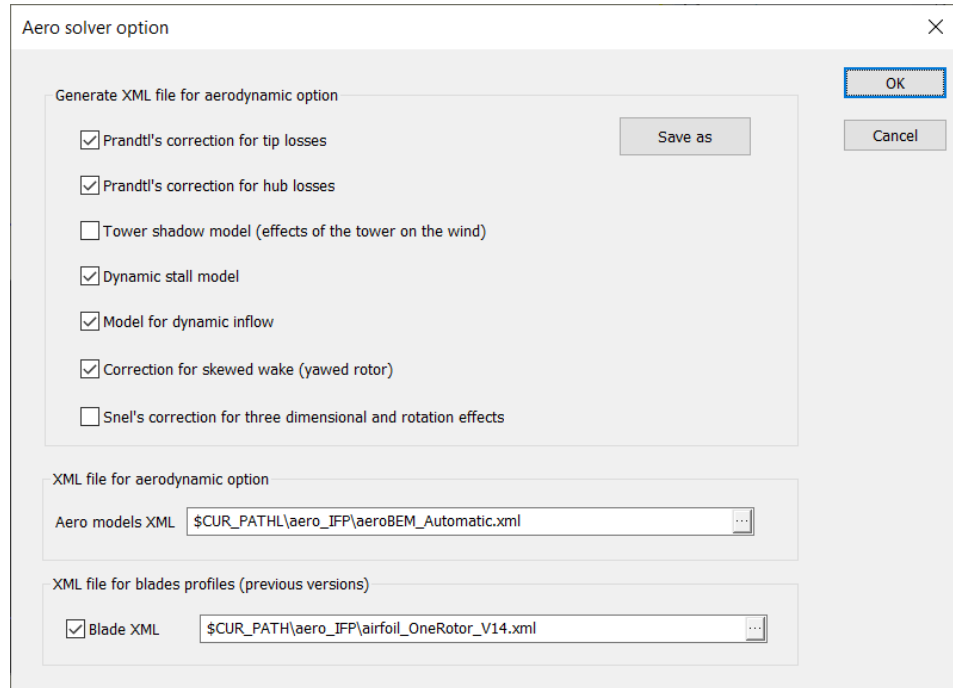

Figure 3-30 : Generation of a XML file for aero solver options
- On Figure 3-30, it can be seen an example where blades air foils are introduced through an old XML file. This configuration represents the default configuration when loading and DSK built-up with previous versions.